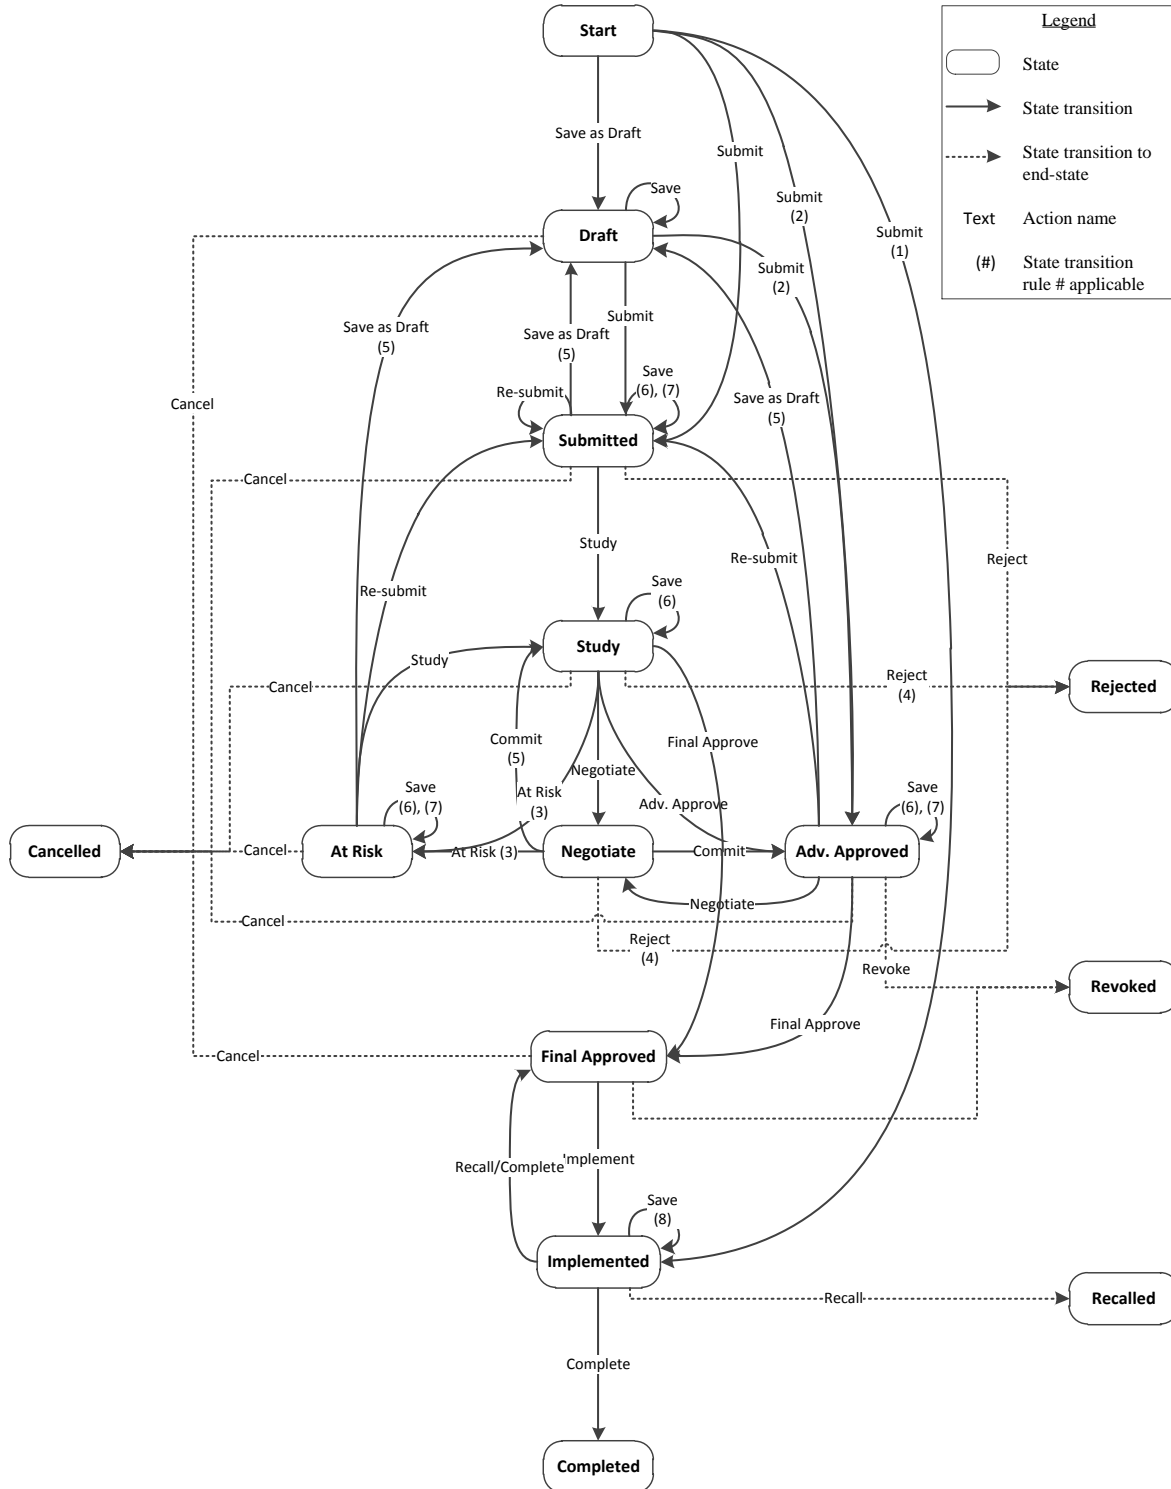

Figure 1: State Transition Model for Outage Requests
**Outage Request Status** – means the status of an Outage Request during its lifecycle (i.e. from creation to completion). A diagram illustrating the possible transitions between Outage Request statuses is shown in Figure 1. Outage Requests can be in one of the following 13 statuses:
- **Advance Approved (AA)** – refers to IESO advance approvals issued to Outage Requests during the processes described in Section 2.
All Outage Requests will be subject to the state transition model and rules shown below in Figure 1 and Tables 1 & 2. Table 2 describes the state transition rule numbers (#) shown in Figure 1.